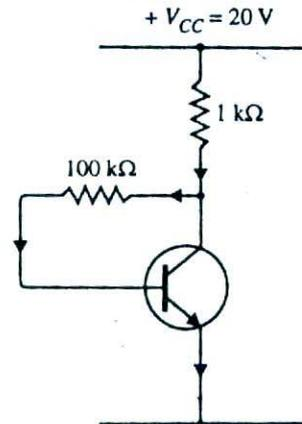

Fig. 11.12
**Example 11.8.** Fig. 11.12 shows a silicon transistor biased by feedback resistor method. Determine the operating point. Given that  $\beta = 100$ .